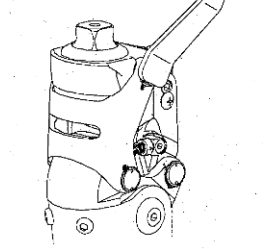

Fig. 5
c) With a special tool used to tighten toothed knobs, tighten Knob **A** by a single thread (fig. 5), then control the degree of looseness. If some looseness remains, apply further tightening.
Caution: Over-tightening will increase resistance to knee flexion and extension (Fig. 5).